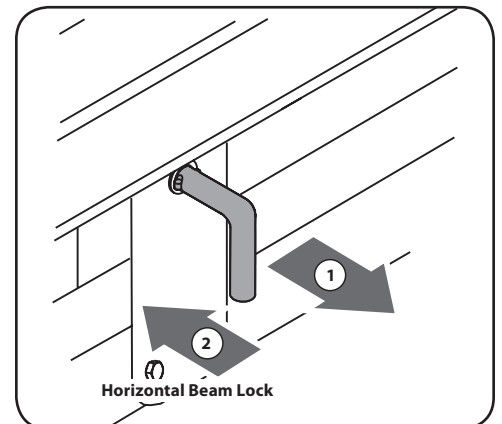

Figure 4-4
- b. The horizontal beam lock is self-locking. The spring loaded lock will snap into place when the beam is lowered into position. See Figure 4-4.